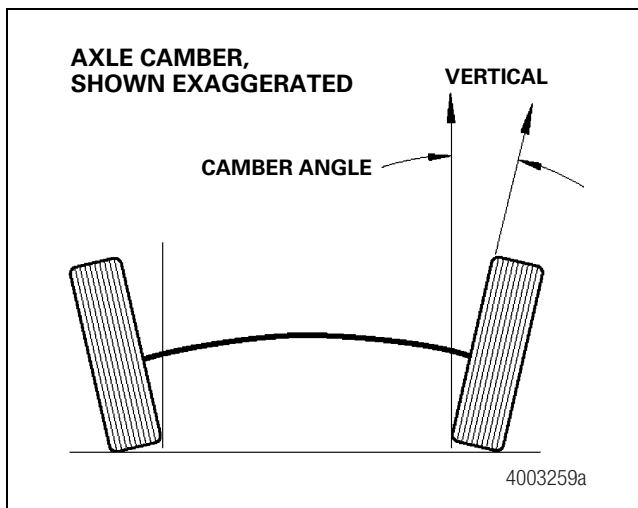

Figure 8.15
- Axle camber is defined as the inward or outward angle of the tires with respect to vertical. With positive camber, the top of the tires are farther apart than the bottom. Negative camber is the opposite. Figure 8.15.